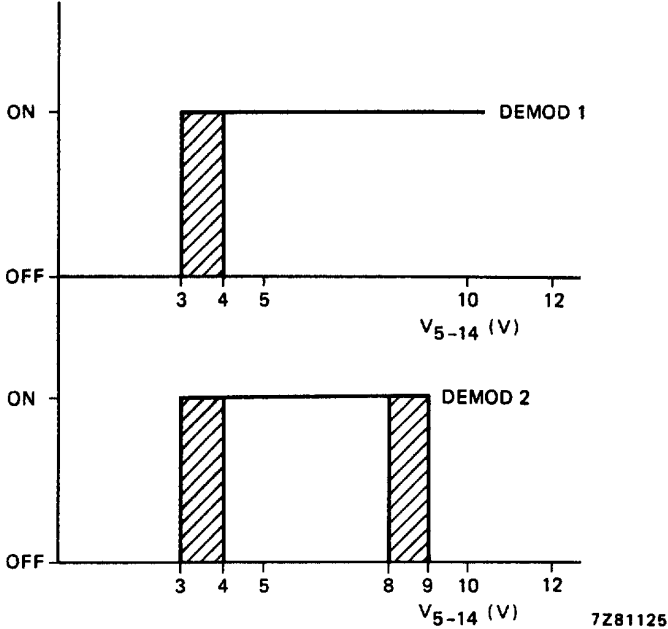

Fig.2 Mute function.
AF output level (Fig.2, note 5)
- In the MUTE state the a.f. output level attenuation is more than 60 dB. The MUTE function is only guaranteed for an r.m.s. value of the input voltage lower than 60 mV. See also Fig.2.